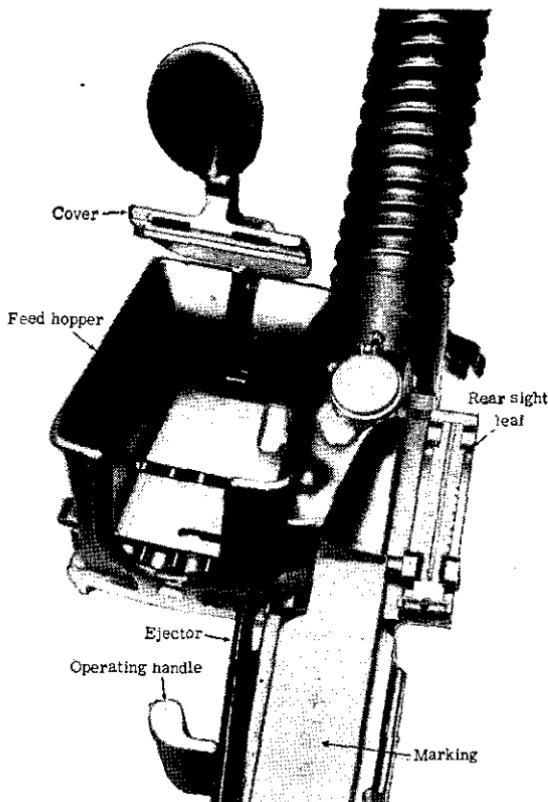

Figure 57.—Close-up of feed hopper (empty) of Model 11 (1922) 6.5-mm light machine gun.
- (1) The feed hopper (figs. 57 and 58) by which 30 rounds are loaded, consisting of six 5-round clips of rifle cartridges placed one on top of the other.
- (2) The cutout section of the shoulder stock.
- (3) The front and rear sights offset to the right.
- (4) The marking $+ - 11$ which is on top of the receiver. (This marking, which is read *Juichinen Shiki* from left to right,² means "11th year model.")